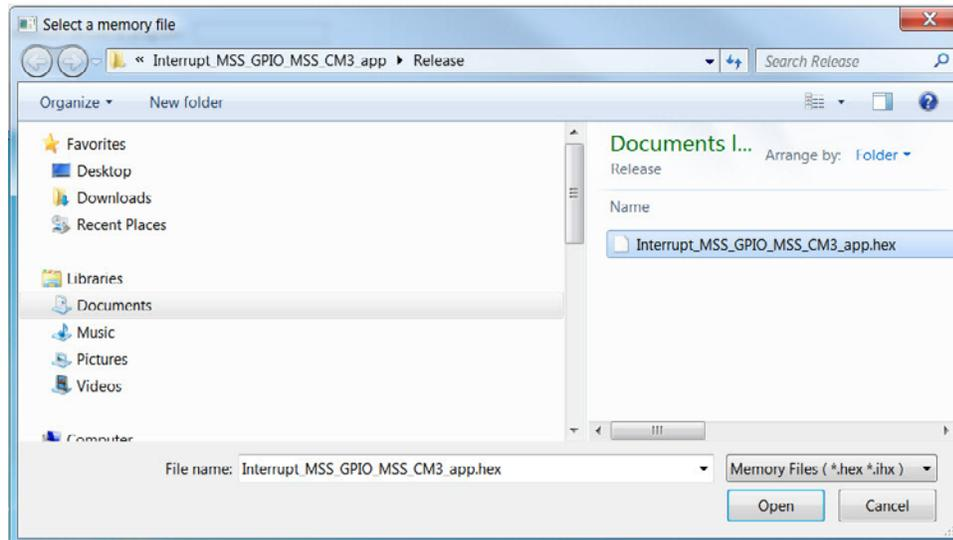

Figure 6-21 • Loading the *.hex file into eNVM Memory Content
4. Click the Browse button (second from right) to navigate to the location of the *.hex file (<SoftConsole Project Folder>.\Interrupt_MSS_GPIO_MSS_CM3_app/Release folder) created by SoftConsole when you build the Application codes. Click the *.hex file and click **Open** (Figure 6-21).